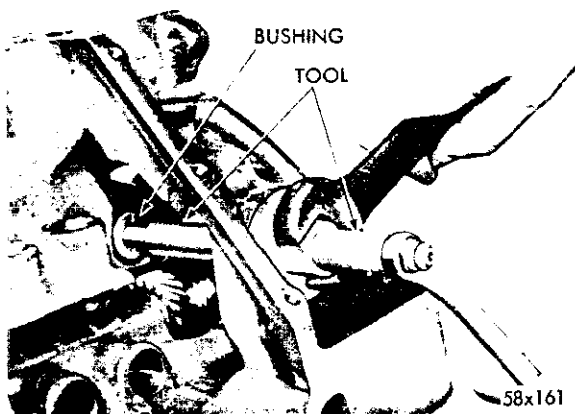

Fig. 36—Burnishing Distributor Drive Shaft Bushing
(3) As the burnisher is pulled through the bushing by tightening the puller nut, the bushing is expanded tight in block and burnished to correct size, as shown in Figure 36. **DO NOT REAM THIS BUSHING.**